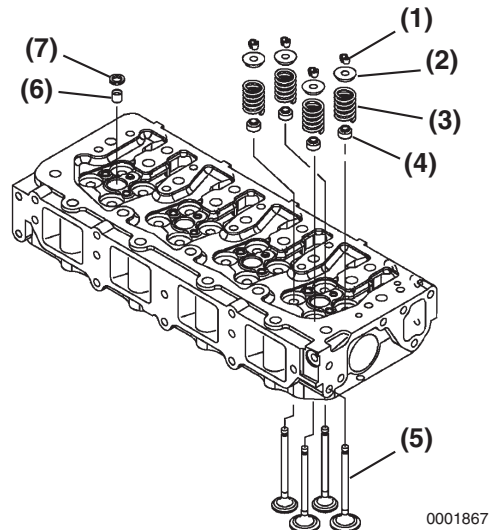

Figure 6-66
4. Place all the valves (Figure 6-66, (5)) in their proper location in the cylinder head.
5. Place the cylinder head on the workbench with the combustion side down. Install the valve spring (Figure 6-66, (3)) and spring retainer (Figure 6-66, (2)).
7. Insert the valve keepers (**Figure 6-66, (1)**) and slowly release the tension in the valve spring. Repeat the steps on all the remaining valves.